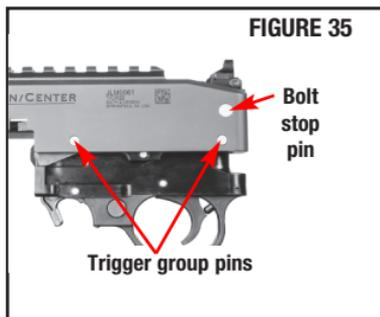

FIGURE 35
- Remove the trigger group assembly by simply pushing out the two trigger group pins identified here (FIGURE 35 and 36). These pins are a slip fit and may fall out on their own when the action is tipped to the side. Take care not to lose them.